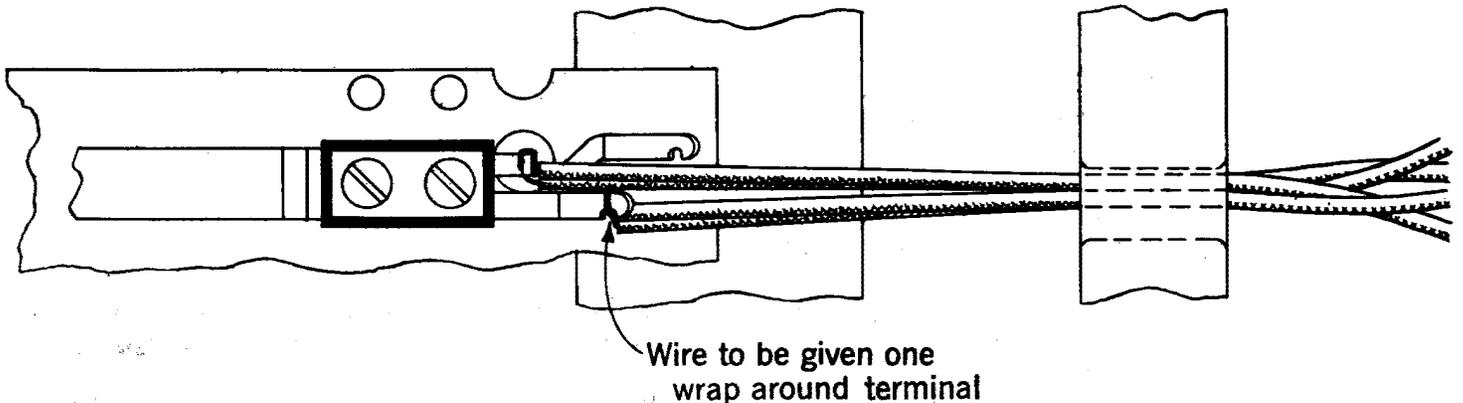

Fig. 23 – Permanently Bridged Cross Connections on Protectors (Other Than the 300-type Connector or the Replaced 121-type Protector)
13.01 When it is necessary to terminate two permanent jumpers on one set of terminals, both jumpers shall be connected to the terminals as shown in Figs. 23 through 26. See also 8.14.